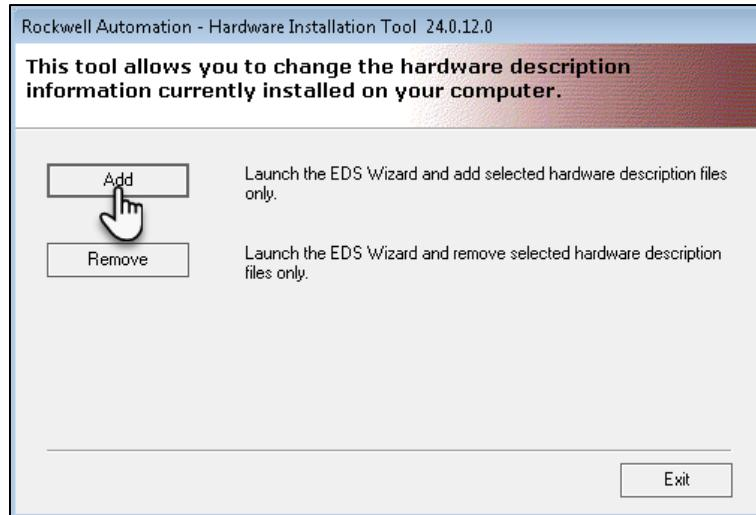

Figure 11: EDS Hardware Installation Tool Main Screen
- Click on **Add** button to bring up the **Registration** window (see **Figure 11**).